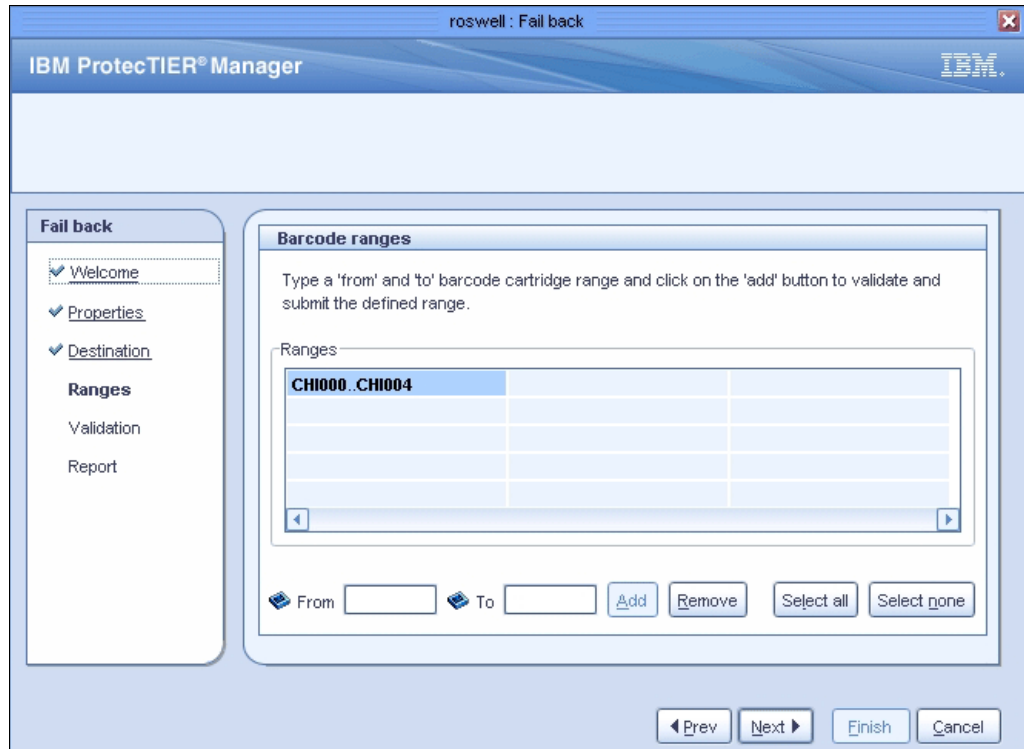

Figure 11-10 Select barcode range for failback policy window
4. Click **Next**. The Barcode ranges window opens (Figure 11-10). Enter the barcode range of the cartridges that you want to fail back to the old or replaced primary repository (refer to 11.2.1, “Splitting the failback according to priorities” on page 580). In our example, we use the barcode range CHI000–CHI004.